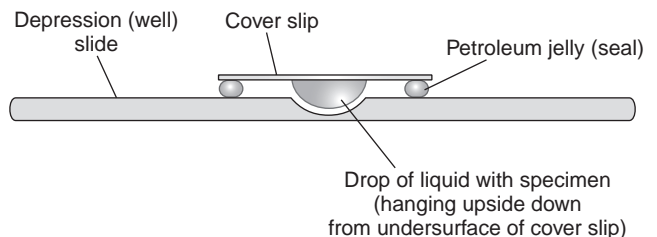

FIG. 6.2. The hanging drop technique.
3. Press the inverted depression slide onto the coverslip to seal the sample of broth within the petroleum jelly and quickly turn it right side up (Fig. 6.2).